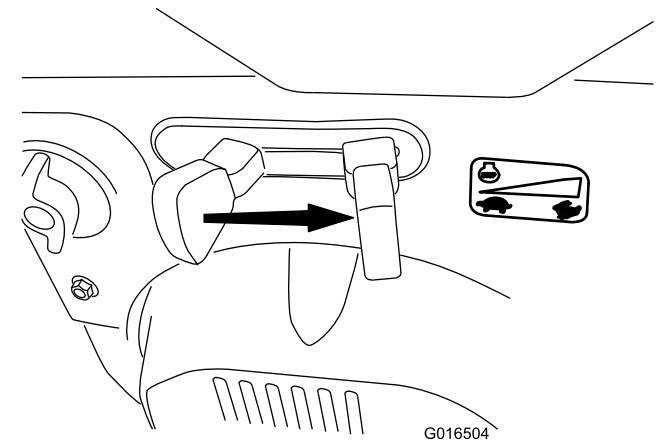

Figure 22
6. Move the throttle to the FAST position (Figure 22).